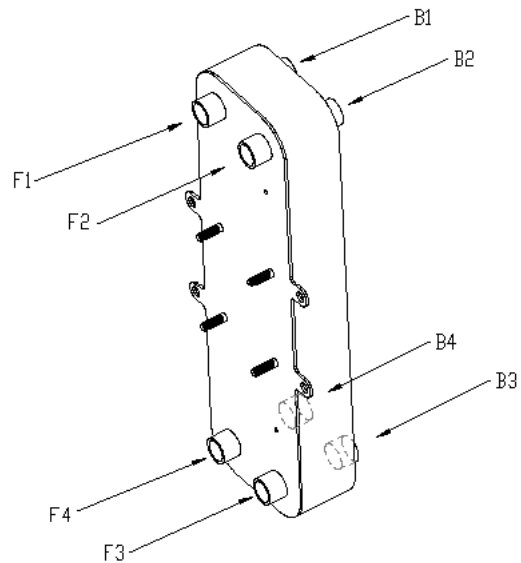

**Figure 1**
3. For single phase fluids, the heat exchanger can be mounted in any orientation that is convenient and should be piped in a counter current, parallel flow arrangement. For two phase fluids, the heat exchanger should be mounted vertically and piped as shown in Figure 1 and Table 1. Connections may be either on the front or back of the exchanger.
8. The nozzle connections are designed for normal torque force and damage may occur if over tightened. The use of pipe sealant materials compatible with the system fluids is recommended for threaded type connections. Connection load limits should be observed and are shown in Figure 1, Table 1, and Table 2.